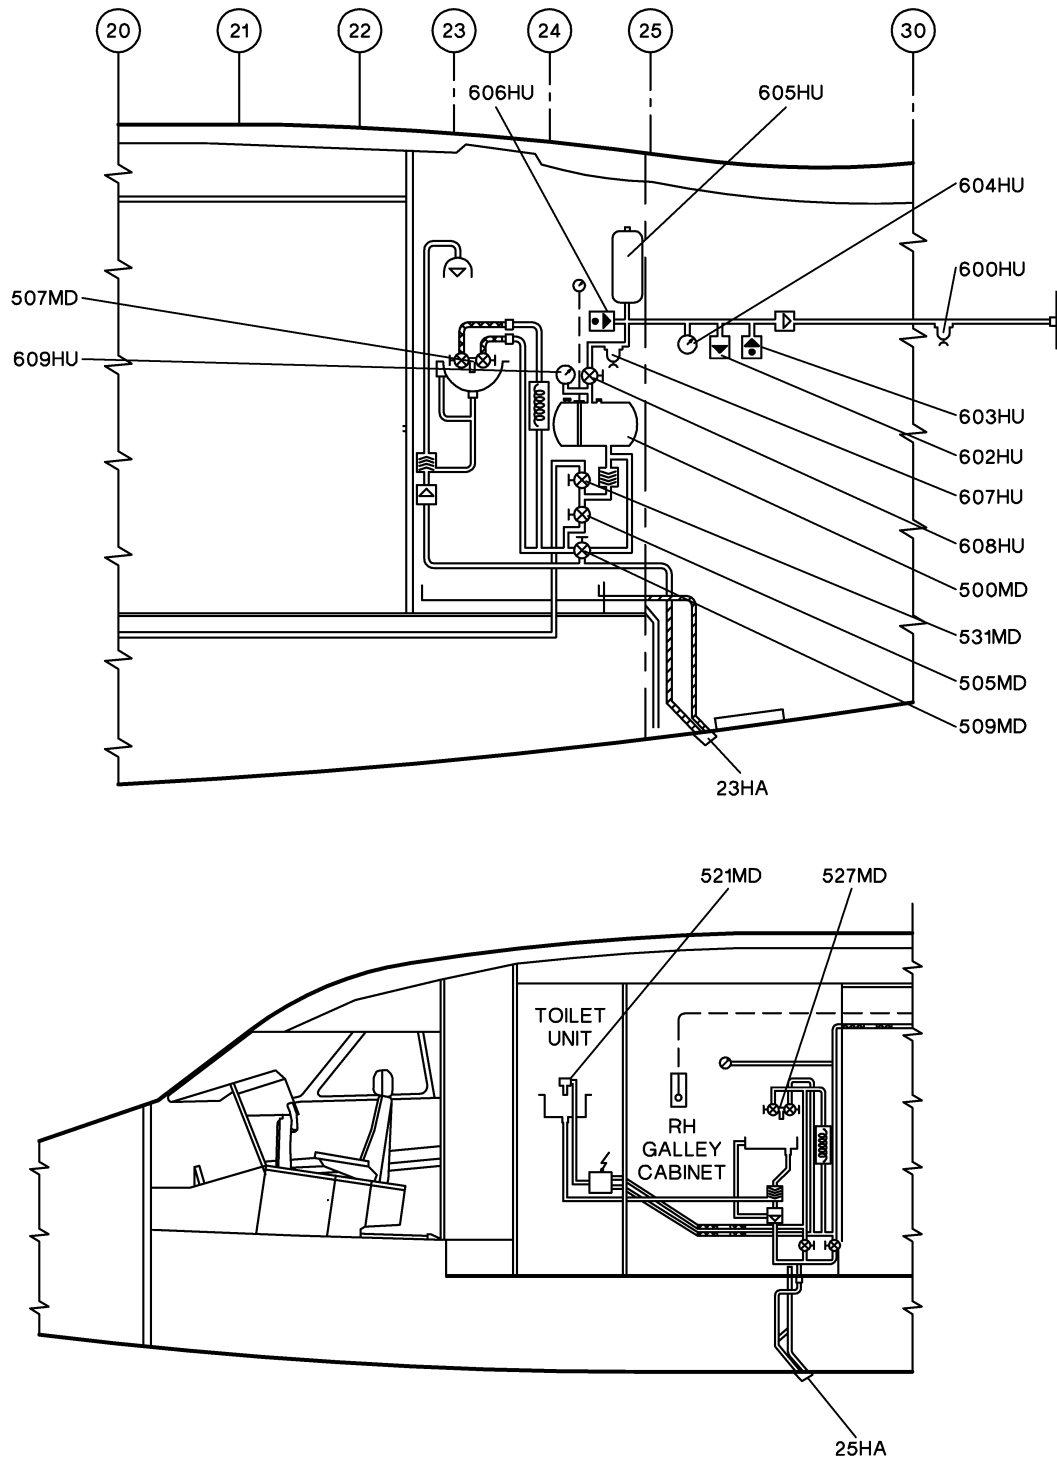
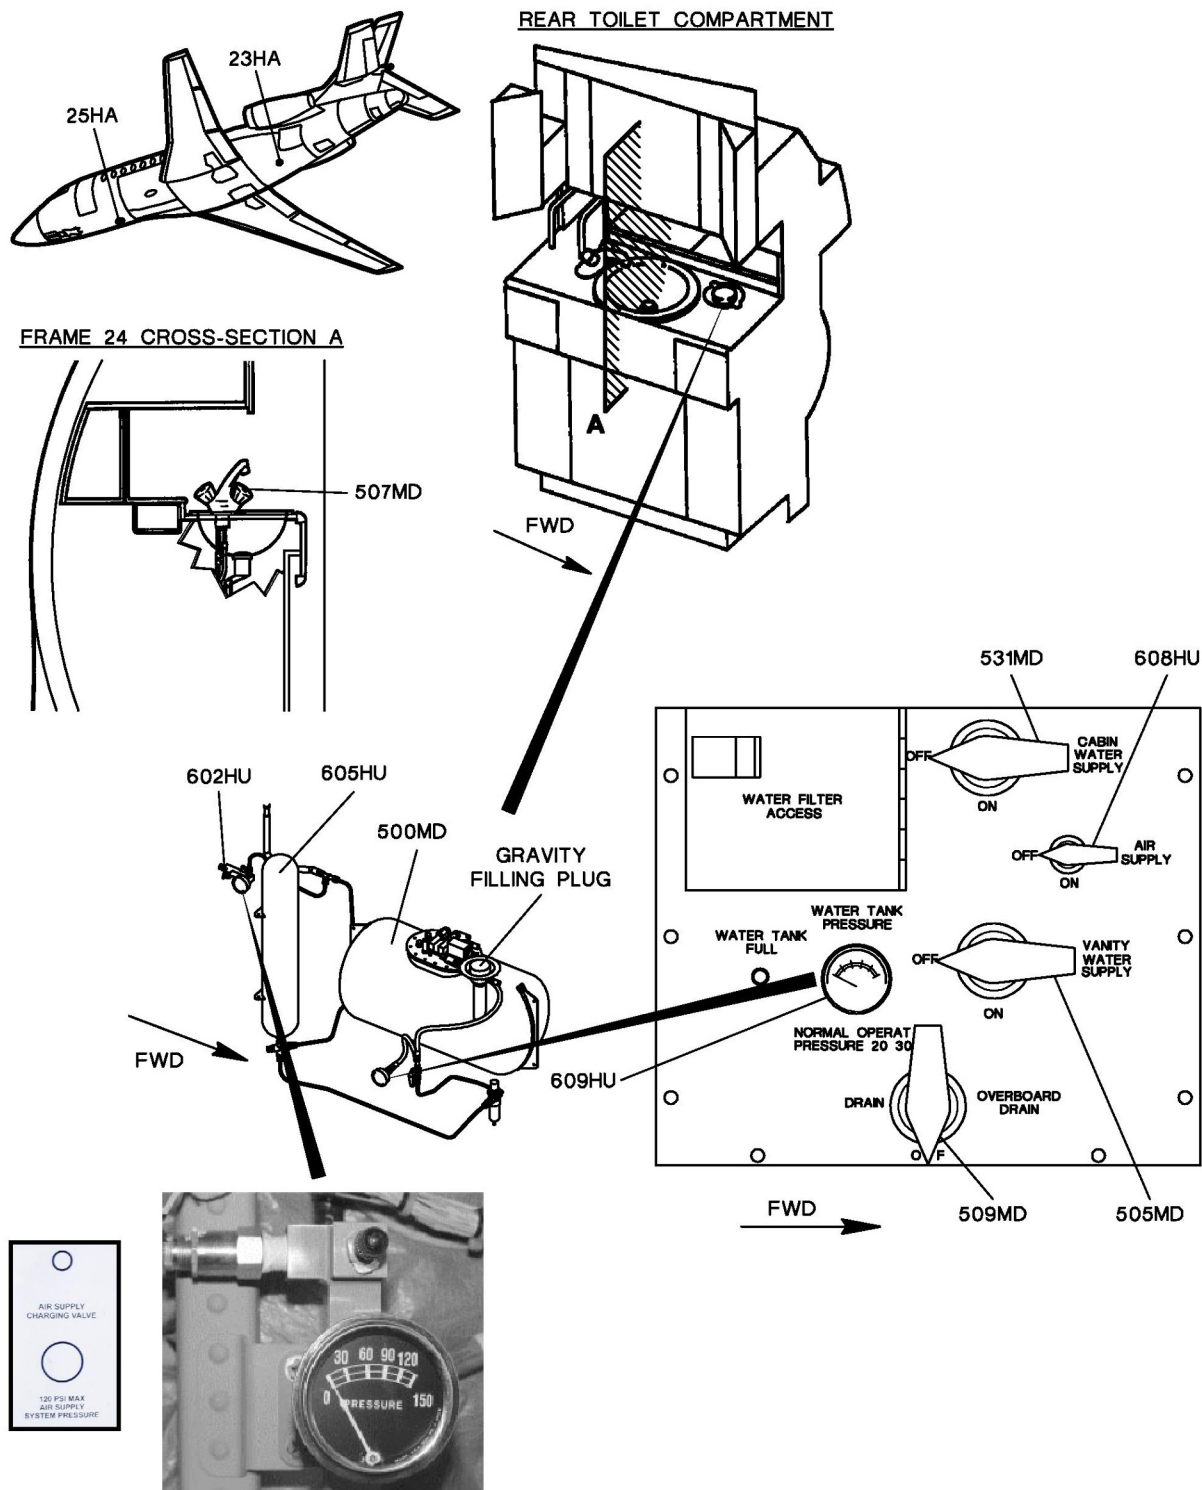
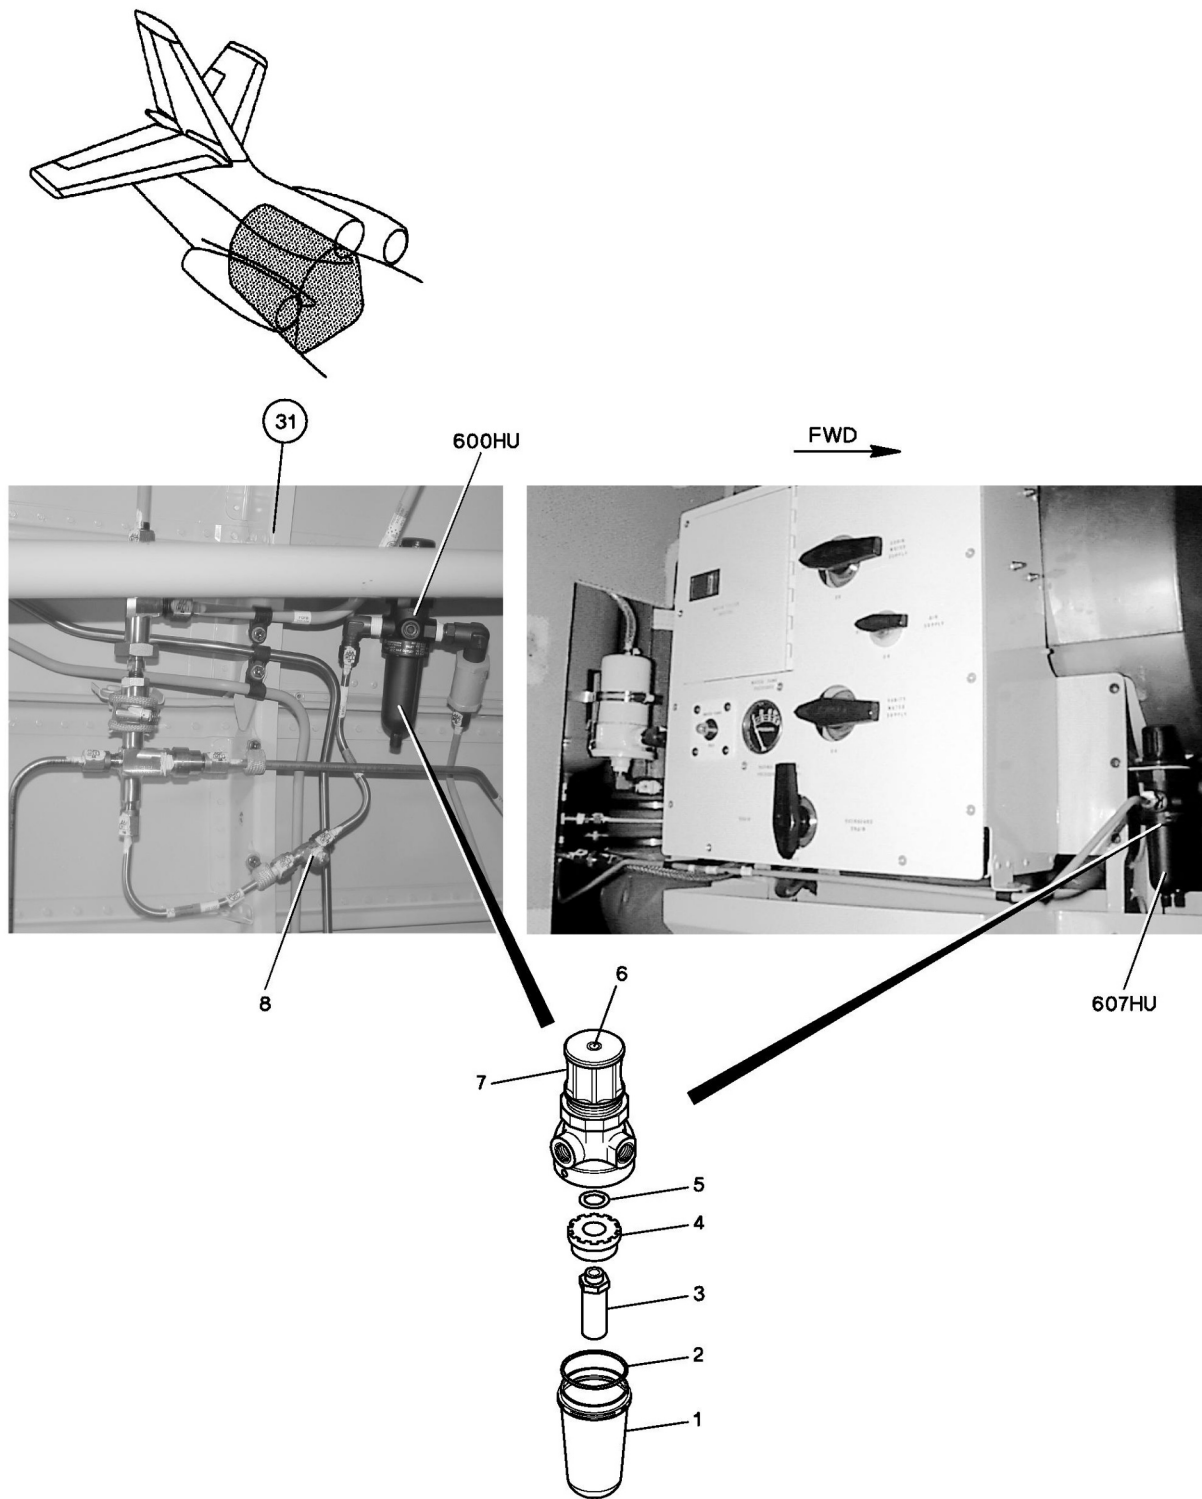

Figure 1: WATER SYSTEM - PRINCIPLE DIAGRAM
Figure 2: POTABLE WATER SYSTEM CONTROLS
Figure 3: LOCATION OF HIGH-PRESSURE REGULATOR/AIR FILTER ASSEMBLY (A/C WITHOUT SB F900EX-315) AND LOW-PRESSURE REGULATOR/AIR FILTER ASSEMBLY
Refer to **fig. 1** and **fig. 2**
Refer to **fig. 2** and **fig. 3**
- H. Check for leaks at the T-coupling (8) (**fig. 3**), using leak detector.